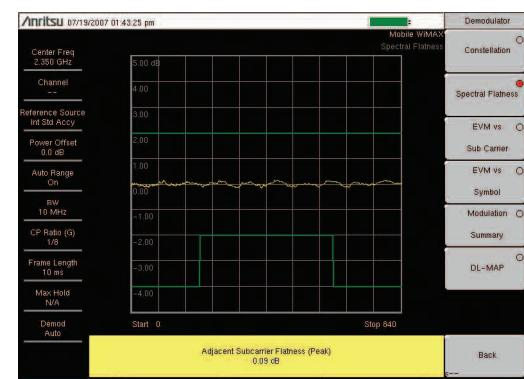

Figure 6. Spectral Flatness view.
2. Press the Spectral Flatness soft key to activate the measurement. The red dot on the soft key indicates it is selected (Figure 6).